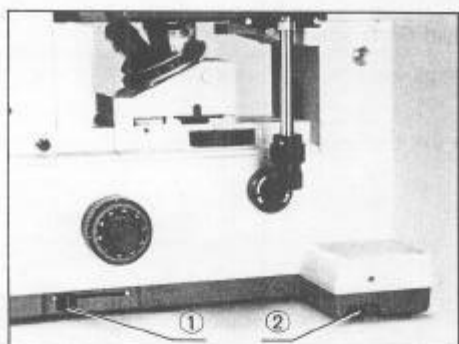

Fig. 16
1) The minimum voltage required for the light source can be controlled by means of the line voltage adjustment dial ② provided on the microscope base (at the right-hand side). (Fig. 16)
2) Ascertain that the sliding control lever ① is positioned closest to you (low voltage), and then activate the main switch.
3) Rotate the line voltage adjustment dial ② until the lamp is dimly lit.